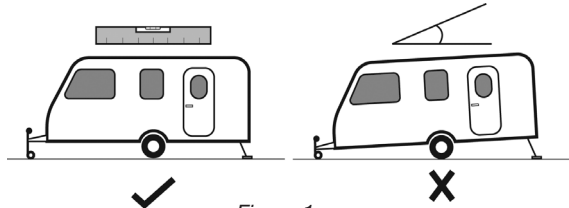

Figure 1.
- (Figure 1) Ensure your caravan, motorhome or panel van is on a level surface and secured.